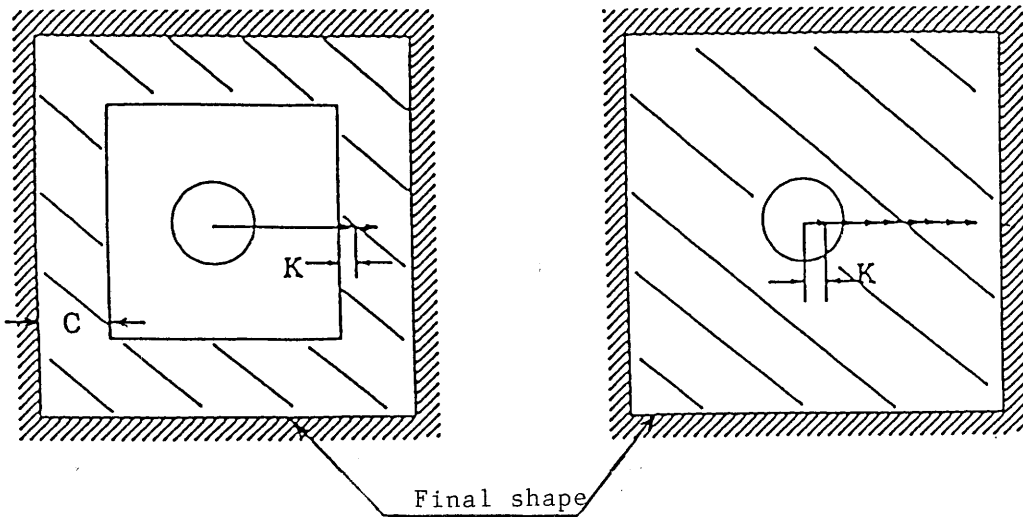

Fig. 7.3
(3) Precautions
- (a) When the semi-finished hole is machined, command cutting depth (C) of one side. When no the command (C) is given, it is presumed that no semi-finished hole is machined, and cutting is preformed from the center. (Fig. 7.3)
- (b) When the cutting width (K) is \ominus , no finishing is performed in the side face direction.
- (c) When the cutting depth per cutting (Q) is \ominus in the 3rd axis direction, no finishing is performed in the 3rd direction.